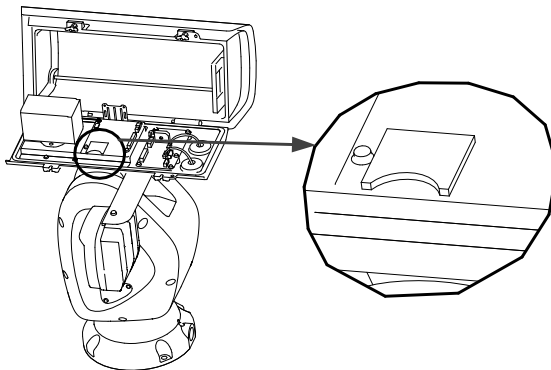
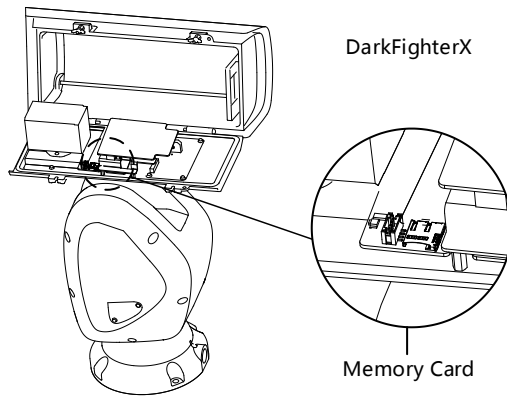

Figure 2-18 Install the Memory Card
Figure 2-19 Install the Memory Card (DarkFighterX)
4. Insert the memory card into the memory card slot as shown in Figure 2-18 and Figure 2-19.